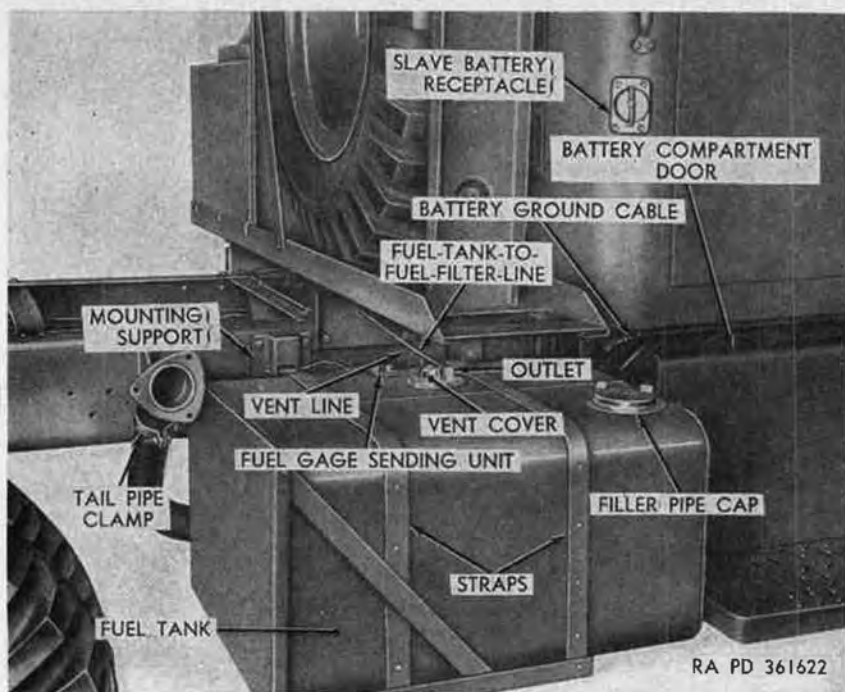

Figure 133.—View of lower right rear corner of truck cab.
- (3) *Drain compressed air system.* Refer to paragraph 235a.
- (4) *Disconnect battery ground cable* (fig. 133). Remove cap screw and tooth-type lockwasher from outside of frame right side rail under right rear corner of truck cab, and remove battery ground cable. Thoroughly tape end of cable to eliminate hazard of accidental grounding. Replace cap screw and tooth-type lockwasher to prevent loss.